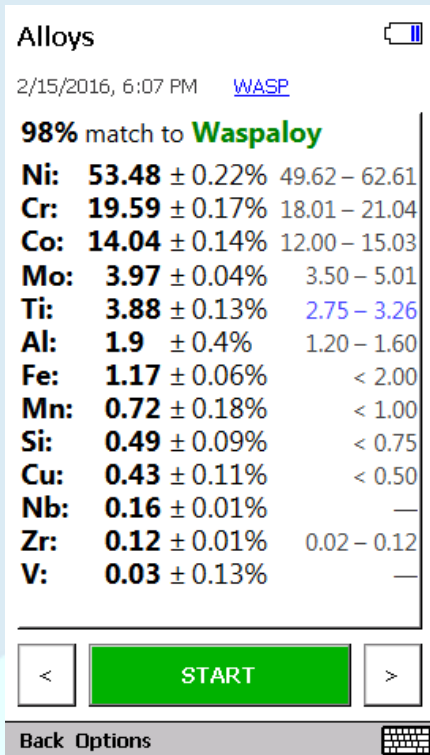

Figure 2. Testing screen of "Compare to alloy" mode.
- Compare to alloy. Displaying both measured and certified concentrations of a specific alloy ID, as shown at figure 2.